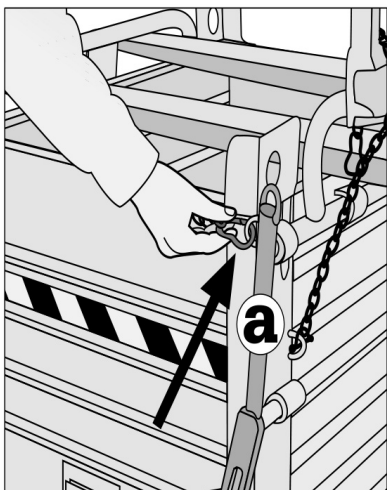

Fig.6.2.15
- 6.2.16 Place the safety ring back on the lever (**a**) far releasing the bottoms (**fig. 6.2.15 - fig. 6.2.16**).